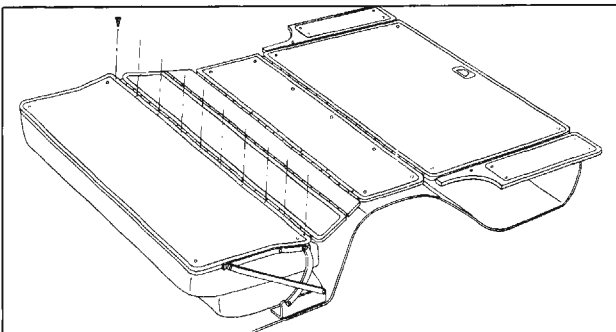

Fig. 16-321 Folding Rear Seat Back Assembly
- Remove rear floor filler panel to folding seat back panel attaching screws as shown in Fig. 16-321.